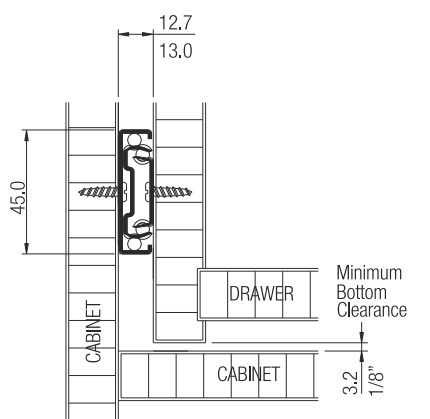

Fig. 1
1. To install Sleek Telescopic Drawer Slide - Soft Close, 12.7 to 13.0 mm gap per side is required between cabinet and drawer (Refer Fig. 1).